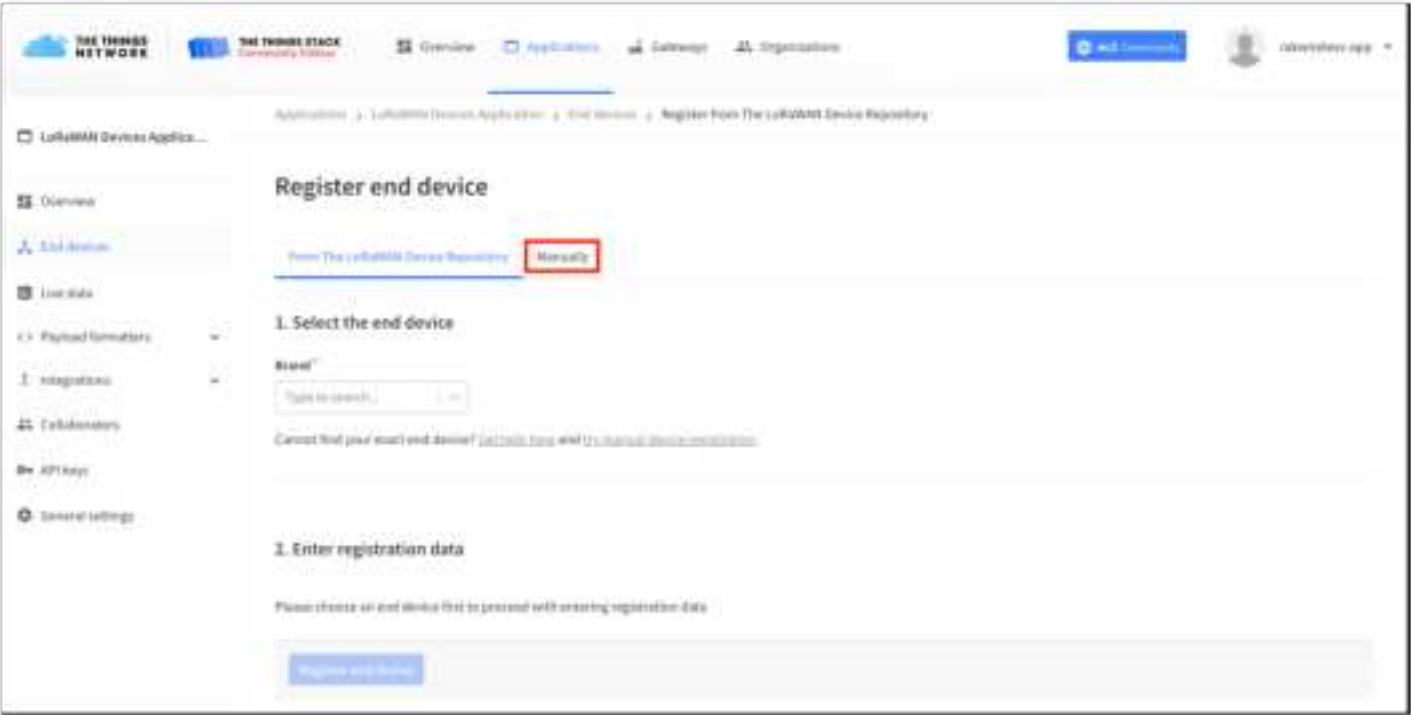

Figure 45: Manually register device to TTN
- These parameters are always accessible on the device console page, as shown in **Figure 45**.